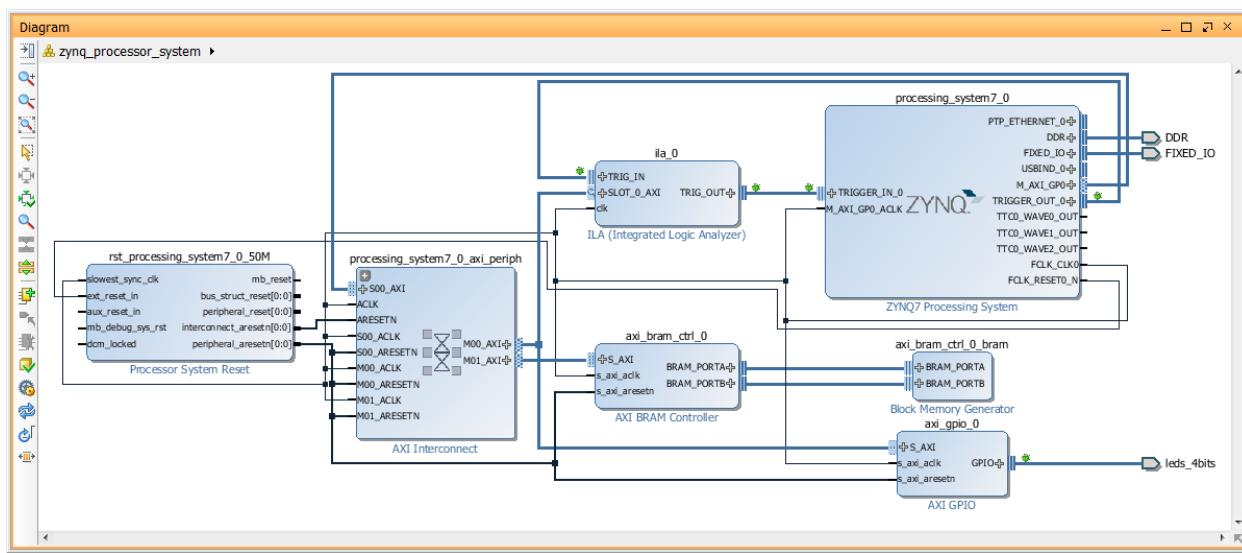

Figure 59: Block Design after Running Regenerate Layout
6. Click the **Regenerate Layout** button  to generate an optimal layout of the design. The design should look like Figure 59.